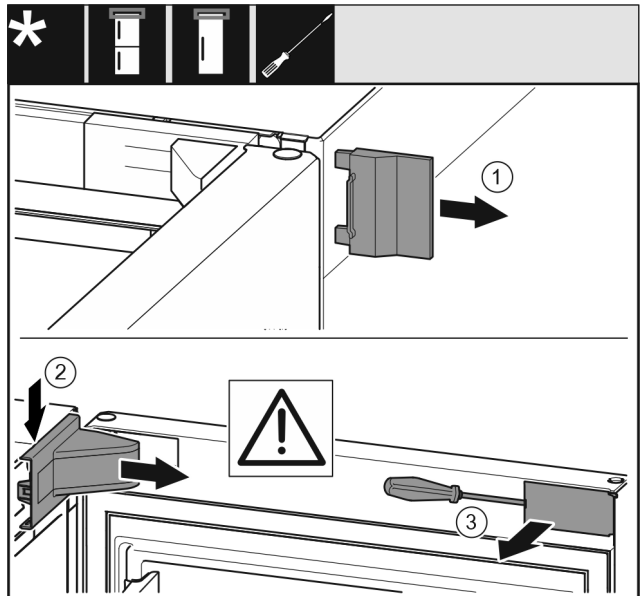

Fig. 6
► Remove the outer cover. Fig. 6 (1)
► Disengage and release the bearing bracket cover. Remove the bearing bracket cover. Fig. 6 (2)
► Unlatch the panel with a slotted screwdriver and swivel it to one side. Fig. 6 (3)